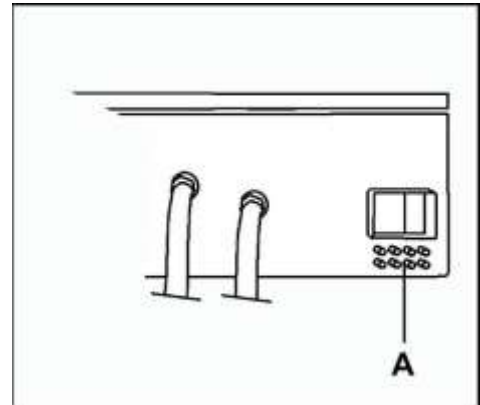

Fig. 3.15
- Connect the hoses to the nipples **A** on the manifold (**Fig. 3.15**).